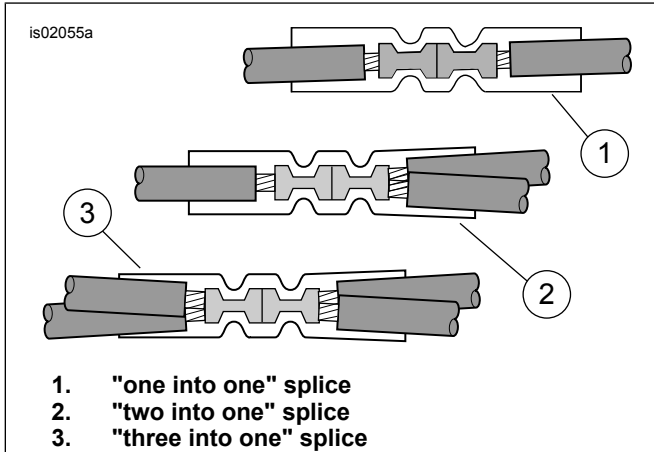

Figure 22. Splice Configurations
3. See Figure 22. The "two into one" splice configuration. Get a **red** sealed splice connector (see Figure 34, Item 4) from the kit. Splice the black garage door opener transmitter wire to the **black** wires from the headlamp. Trim back the transmitter wire harness casing to assist splicing.
- a. Splice wires to the sealed cap ends of the electrical connection harness as required. If the electrical connection harness was spliced in a previous accessory installation, cut off the existing splices. **DO NOT REMOVE** the sealed cap from the RED wire. See Figure 22. for multiple splice configurations.
- b. Clip the cap off the Black wire, strip back, crimp and seal to BLACK wire of the wire harness from **this** kit, using the additional black wire (10) from the hardware pack as an extension.
4. See Figure 22. The "two into one" splice configuration. Get a **red** sealed splice connector (see Figure 34, Item 4) from the kit. Splice the garage door opener wire harness power lead to the main harness orange/white wires per the service manual appendix.